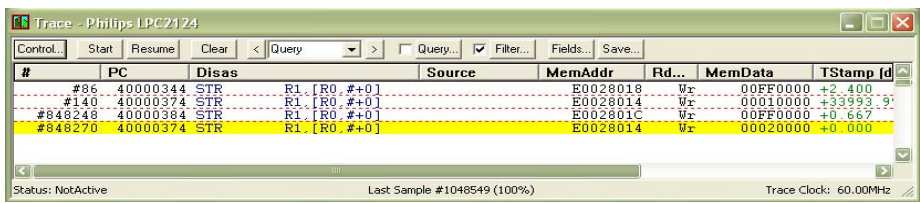

FIGURE 53 Filtered trace showing only read and write to the IO ports operations.
3. Press the **Run** button. The trace will fill instantly and display new data. To find the data variables in the trace, double click in the MemAddr or MemData fields and select Filter non-empty MemAddr. This will only display the trace frames with valid MemAddr fields. In our exercise, only the writes and reads to the IO ports and the associated data values are shown (Figure 53).